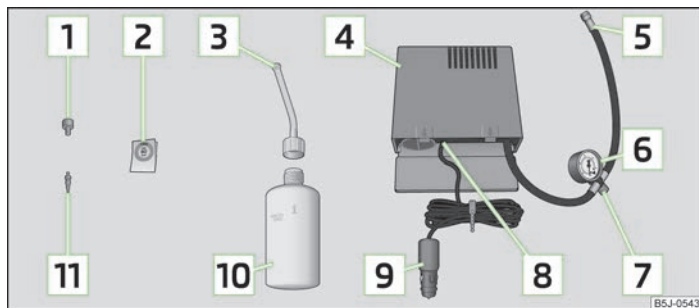

Fig. 137 Components of the breakdown kit
- Stick the sticker [2] » Fig. 137 on page 163 on the dash panel in view of the driver.
- Forcefully shake the tyre inflator bottle [10] » Fig. 137 on page 163 several times.
- Screw the tyre inflation hose [5] » Fig. 137 on page 163 of the air compressor firmly onto the tyre valve.